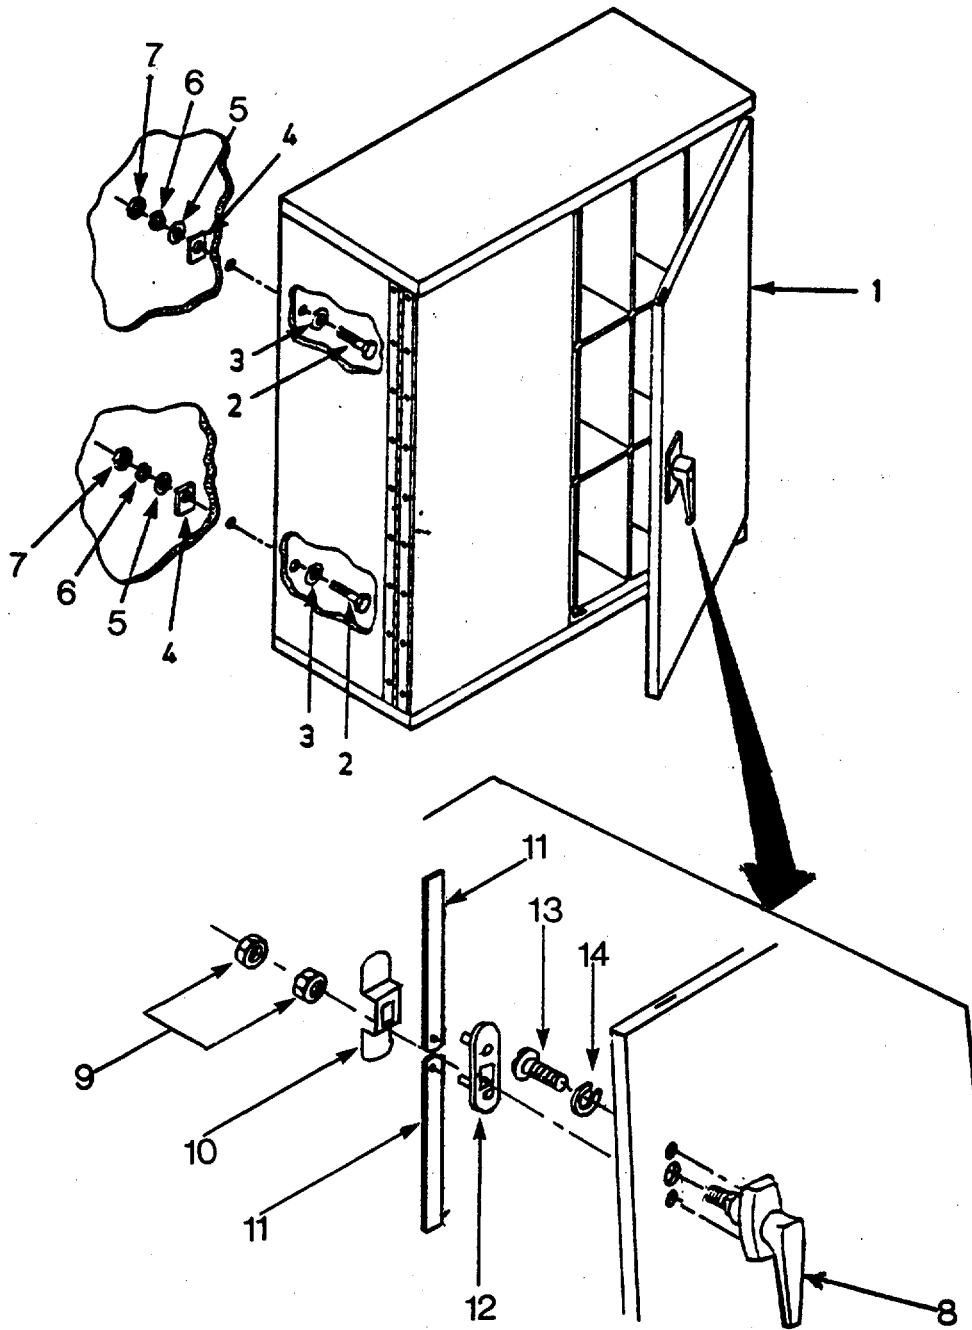

Figure 4-7. Artist Supply Cabinet
4-15. **ARTIST SUPPLY CABINET ASSEMBLY.** - Continueda. Inspect. (See Figure 4-7.)
(1) Check editorial room, curbside supply cabinet for security of mounting. Check for dents and structural damage. Inspect welds for breaks or separation.
(2) Check supply cabinet handles for security of installation and damage.
(3) Check latching mechanism for proper operation and security.
b. Replace. (See Figure 4-7.)
(1) Remove contents from supply cabinet shelves.
(2) Remove bolts (2), flat washers (3), backing plates (4), lockwashers (5), nuts (6), and cabinet (1).
(3) Install supply cabinet (1). Secure with bolts (2), flat washers (3), backing plates (4), flat washers (5), lockwashers (6), and nuts (7). Seal backing plates (4) to shelter wall with RTV (Appendix E, item 3).
c. Repair. (See Figure 4-7.)
(1) Replace door handle assembly.